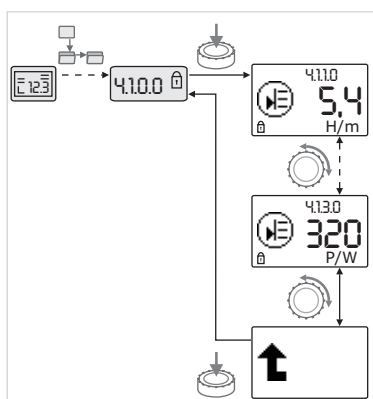

Fig. 34: Calling up information
• Turn the white button to access the "Information" menu elements in the current sub-menu (see Fig. 34). For an explanation of the settings represented by the symbols, see the table in Section 8.7 "Menu elements reference" on page 79.